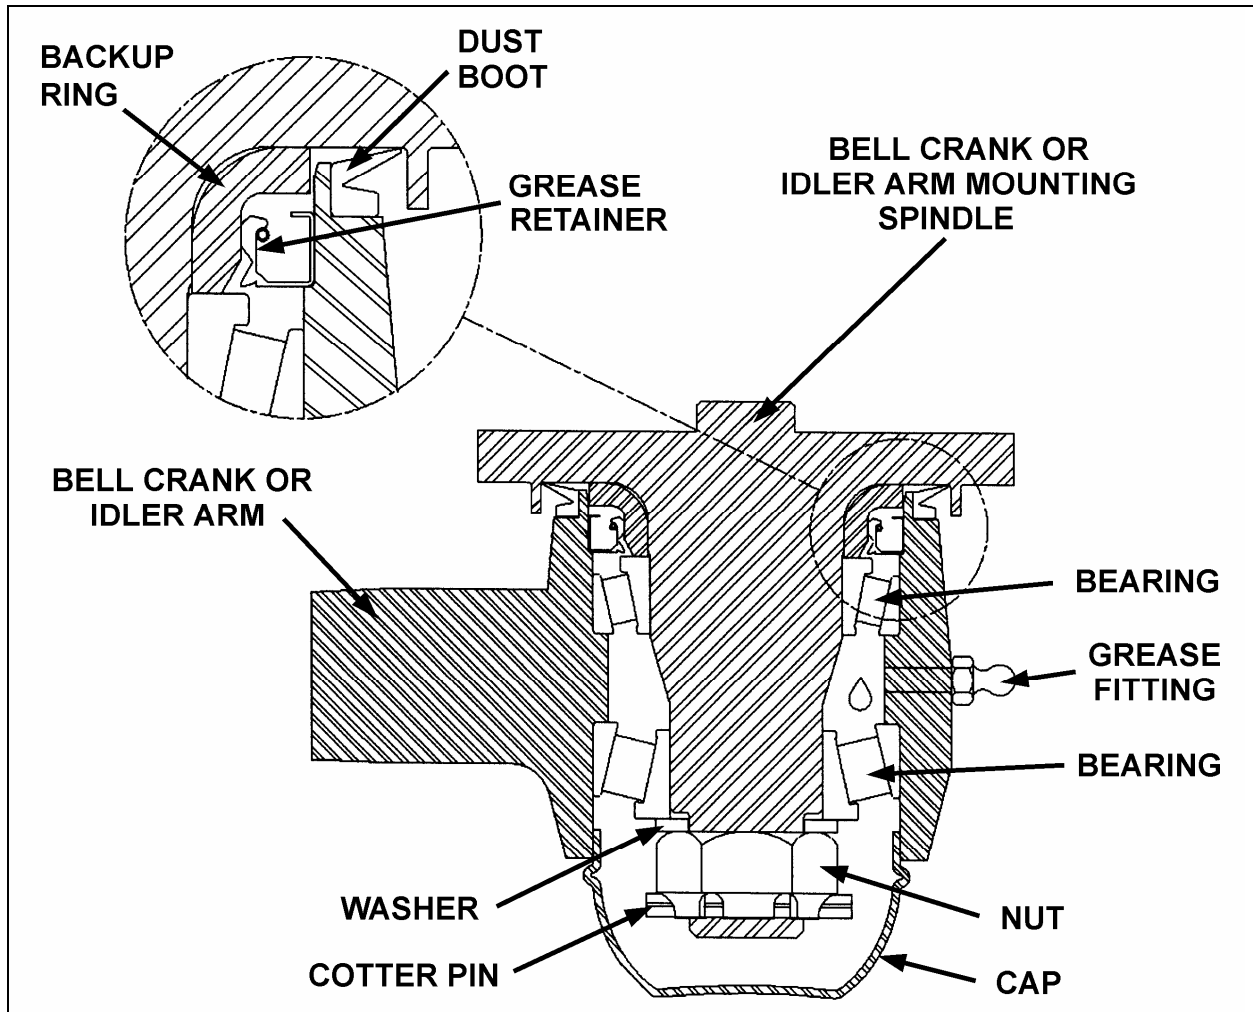

FIGURE 11: BELL CRANK AND IDLER ARM
2. Remove the cap (Fig. 11).
3. Remove the cotter pin, nut and thrust washer. Remove bearings, grease retainer, backup ring and the bell crank or idler arm from its mounting spindle (Fig. 11).
2. Install grease retainer and bearing in bell crank or idler arm eye (Fig. 11).
Install grease retainer according to figure 11. Grease must be able to exit the bell crank or idler arm mechanism. For grease retainer installation use tool Prévost # 110683.
Bend cotter pin around the nut (Fig. 11). Do not bend the cotter pin in the direction of the cap, because it may interfere with the cap.